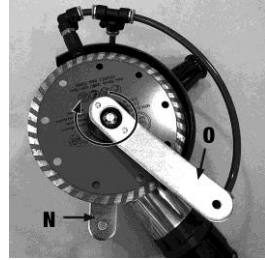

Fig. 3
4. Replace the upper flange and tighten with the pin wrench while holding the open end wrench on the flats of the work spindle (Fig. 2-2). Make sure that the cutting blade is set tight and secure (Fig. 3).